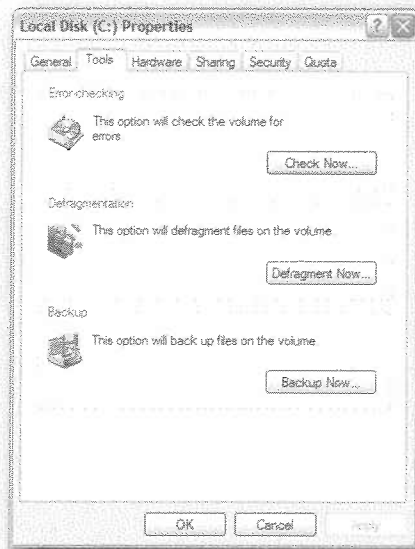

FIGURE 2-1: The Tools tab in the Windows XP Disk Properties dialog gives you a wealth of options for maintaining your hard drive.
1. Run Scandisk or a similar disk utility before the transfer. This will make sure that problems don’t follow to your new hard drive. Scandisk isn’t hard to find on Windows machines. On Windows 9x machines, go to the Start menu and click Run, then type **scandisk** and hit Enter, and it should appear. On Windows 2000 and XP, open up My Computer, right-click the hard drive you will be upgrading and select Properties, then Tools, then click Check Now . . . in the *Error Checking* box. (See sidebar Figure 2-1.)
2. Optimize your hard drive to make sure all of the data is contiguous. This may also speed up the transfer. On Windows 9x machines, go to the Start menu and click Run; then type **defrag**. On Windows 2000 and XP machines, open up My Computer, right-click the hard drive you will be upgrading and select Properties, then Tools, then click Defragment Now . . . in the *Defragmentation* box. (See sidebar Figure 2-1.)